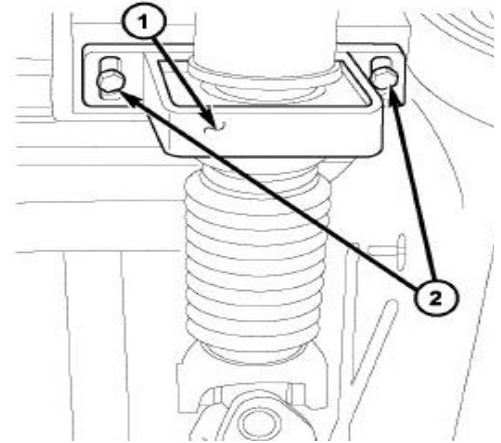

Figure 10 – Center Bearing
26. If equipped with a center bearing (1) mark an outline of the center bearing (1) on the center bearing bracket for installation reference. Then support propeller shaft and remove mounting bolts (2) (Figure 10).